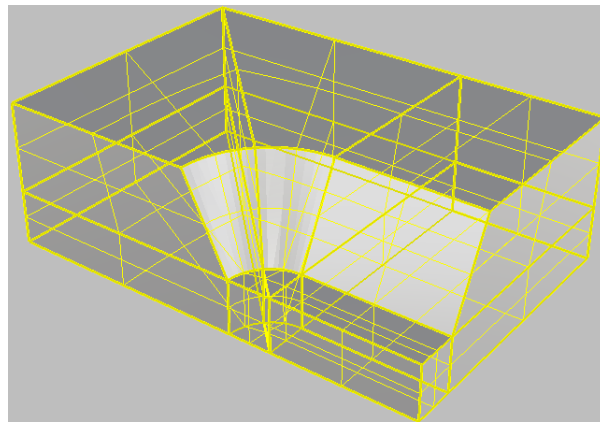

Figure 82: Completed model before verification
1. **<Ctrl> A** to select **everything** in your model (Figure 82). Rhino should respond with the message "**8 polysurfaces, added to selection**". If a number of **surfaces** also appear in the list, this is an **indication** that as you were building the solids, you did **not Join** certain **surfaces** into solids. **Find** them and **join** them so that you have **8 closed Polysurfaces (solids)**.